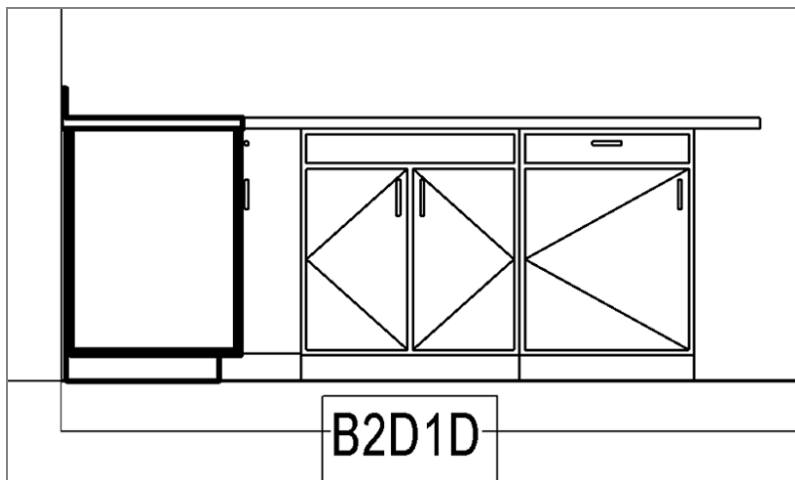

FIGURE 11.78: Renaming the tag
8. Rename the tag **B2D1D**, as shown in Figure 11.78, and then click Yes.